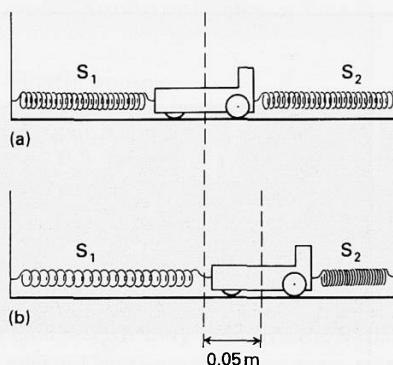

Figure A93
**13(R)** A trolley of mass 0.80 kg is held in equilibrium between two fixed supports by identical springs ( $S_1$  and  $S_2$ ) as shown in figure A93(a); each spring has an extension of 0.10 m. In figure A93(b) the trolley is shown moved to the right a distance 0.05 m.
- a What is the *change* in force exerted by spring  $S_1$  caused by moving the trolley to the right as in figure A93(b)?
i as in figure A93(a), and
ii as in figure A93(b).